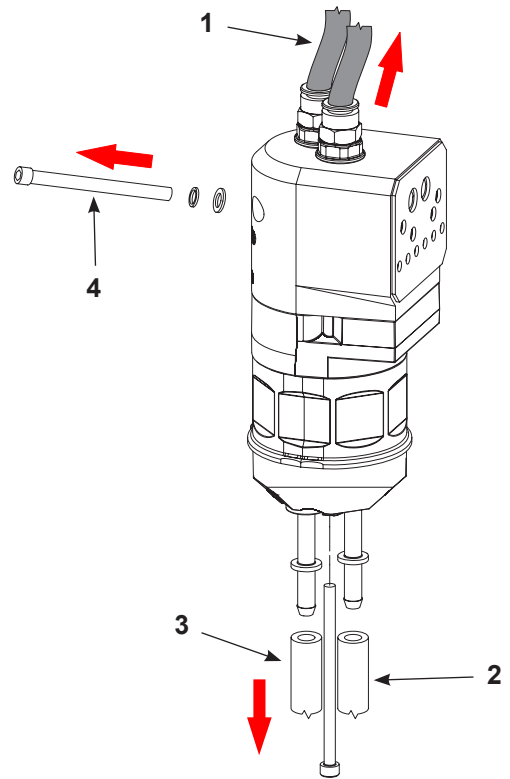

Figure 19 Retrofit Pump Disassemble Preparation
1. See Figure 19. Disconnect the purge air lines from the top of the retrofit pump (1) where applicable.